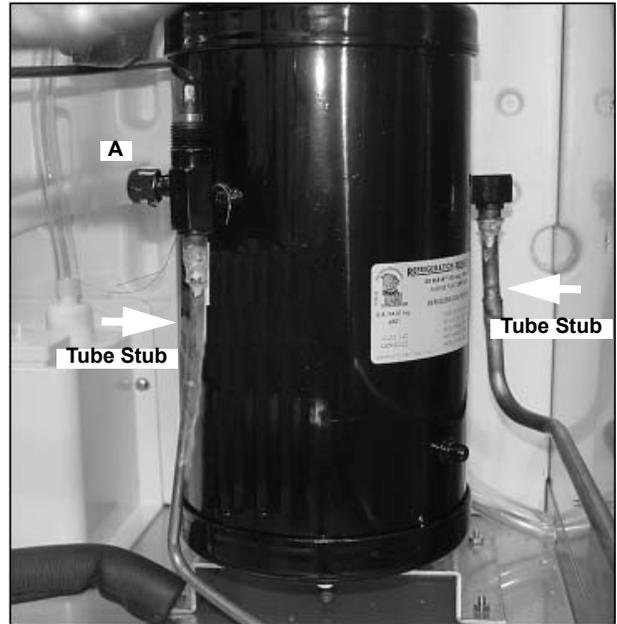

Figure 24.
20. Protecting the water pump and plastic bulkhead from heat, remove the evaporator piping at the bulkhead, including the 90° elbow fittings (Figure 24).